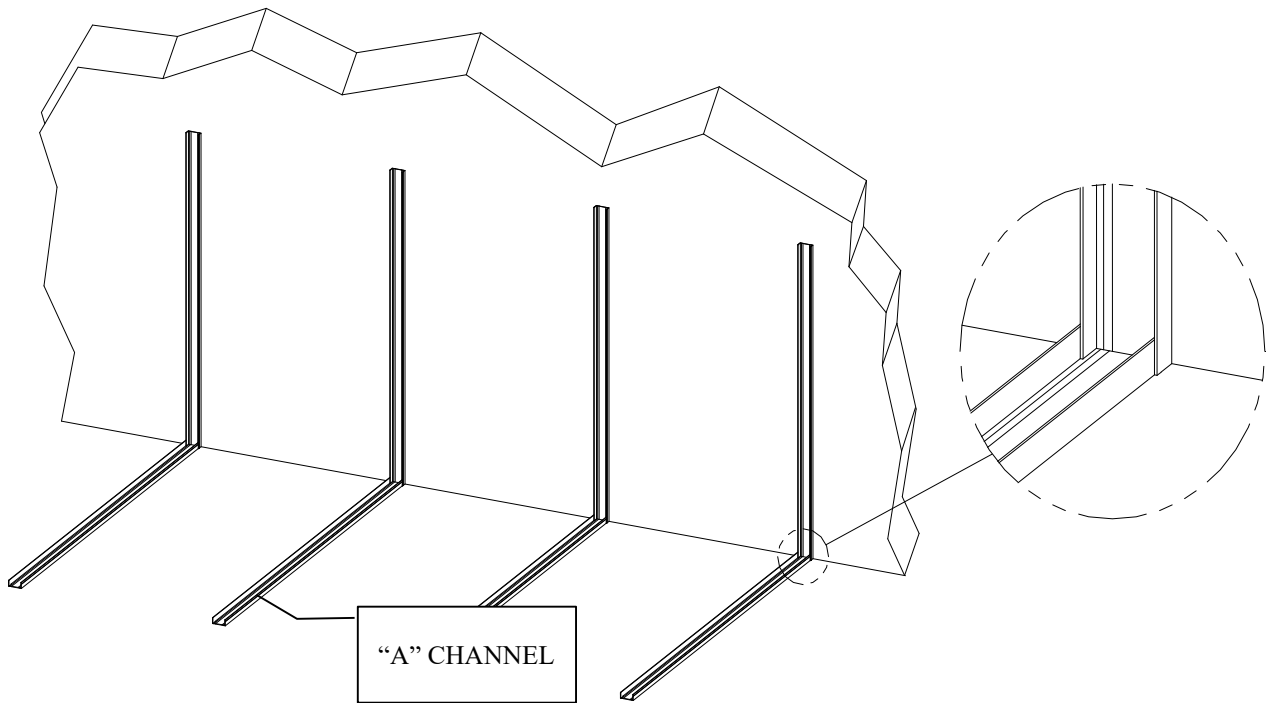

Figure 12
5. Position the “A” channels for the division walls onto the floor and interlocking with the “B” channels that you have previously fastened to the wall. For division walls at the ends of the system the floor “A” channel should be to the inside of the run. This will allow the vertical corner extrusion (“G” profiles) to fit properly. The “A” channels should be slid onto the “B” as far as they can go. See figure 12.